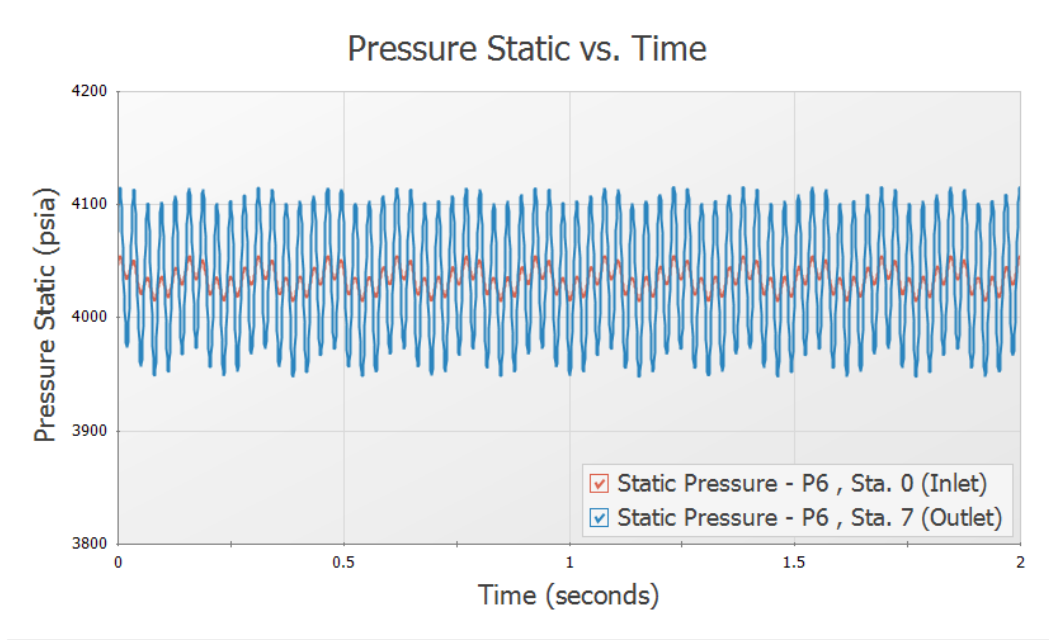

Figure 6.24 Pressure Oscillations at the Inlet and Outlet of Pipe P6 for 130.4 RPM
7. Right-click on the y-axis and uncheck the Auto Scale option. Set the Minimum to 3800, the Maximum to 4200, and the Major Val to 100. The resulting graph is shown in Figure 6.24.